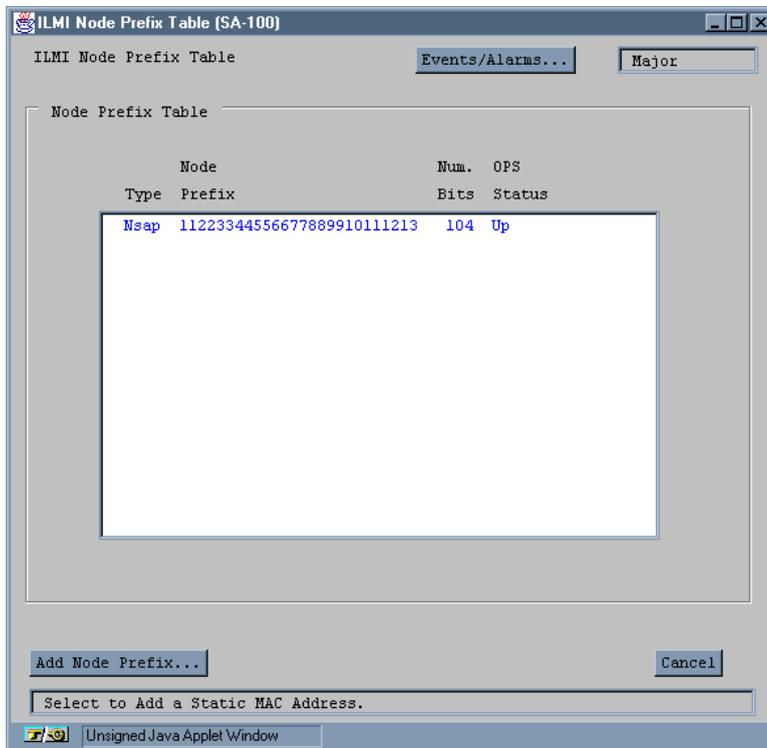

Figure 3-10. ILMI Node Prefix Table
1. Choose the ILMI Node Prefixes button from the System Administration window. The ILMI Node Prefix Table window appears (see Figure 3-10).